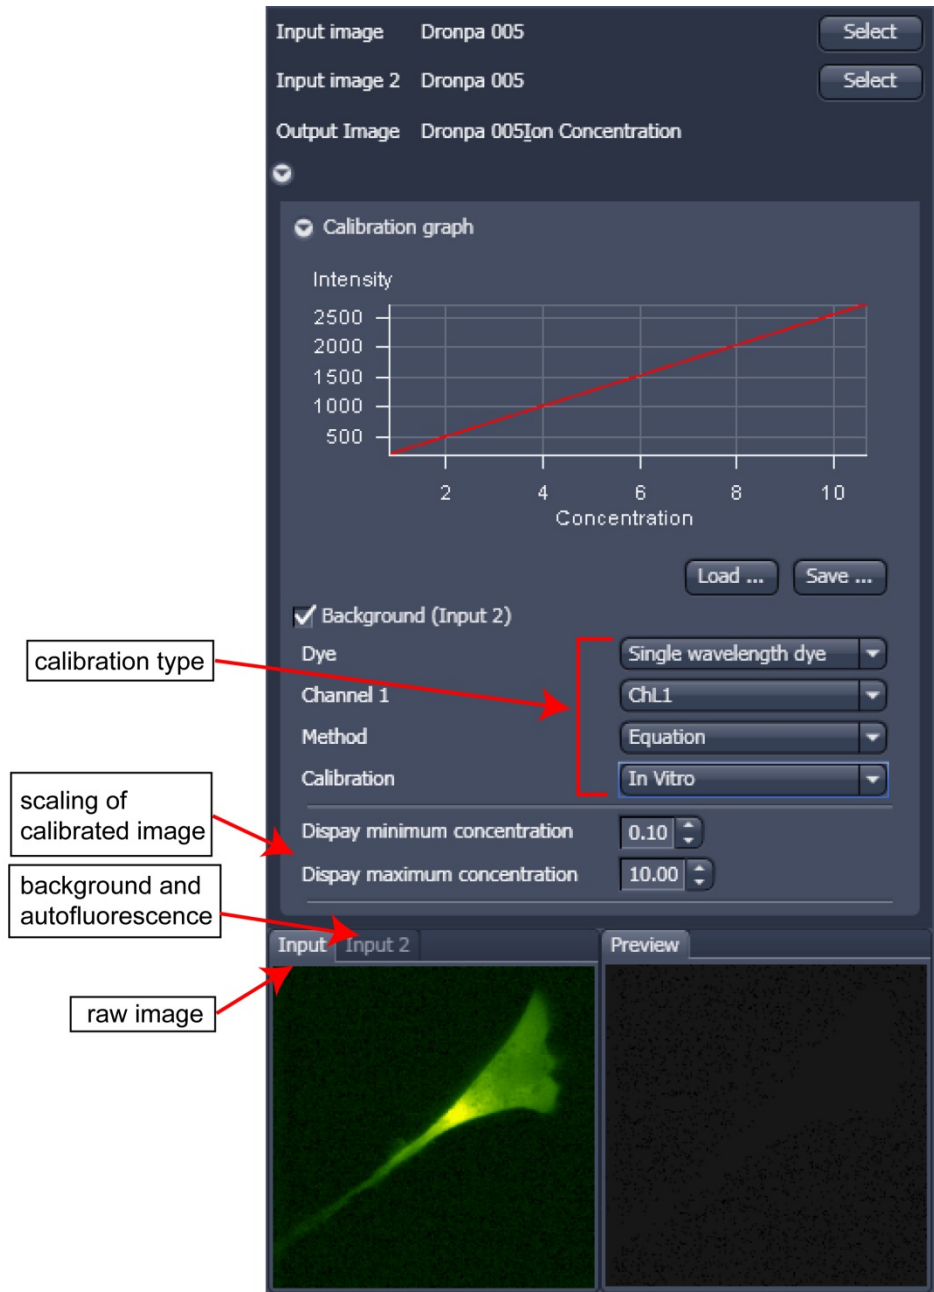

Fig. 417 Ion concentration panel
- Subtract background/ autofluorescence image from raw images to obtain better raw data to start with (Fig. 417).